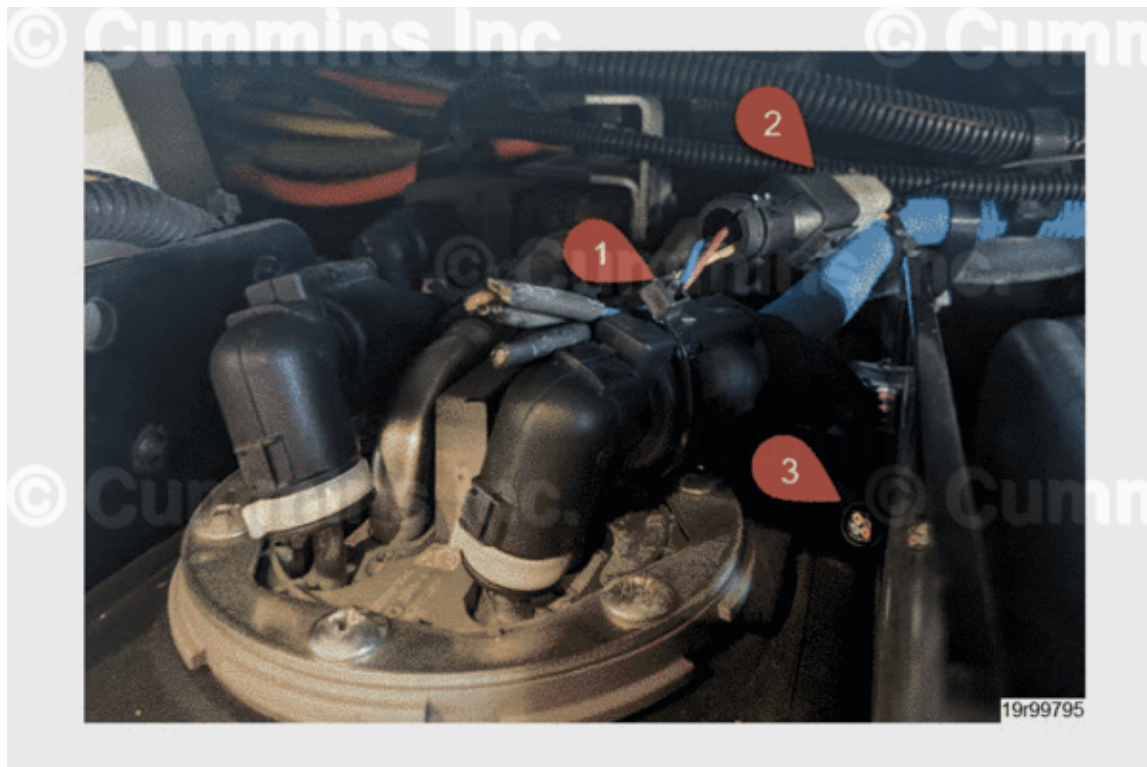

Figure 4, OEM Wiring Harness.
8. Secure the wiring harness using a zip tie. See Figure 4 below.